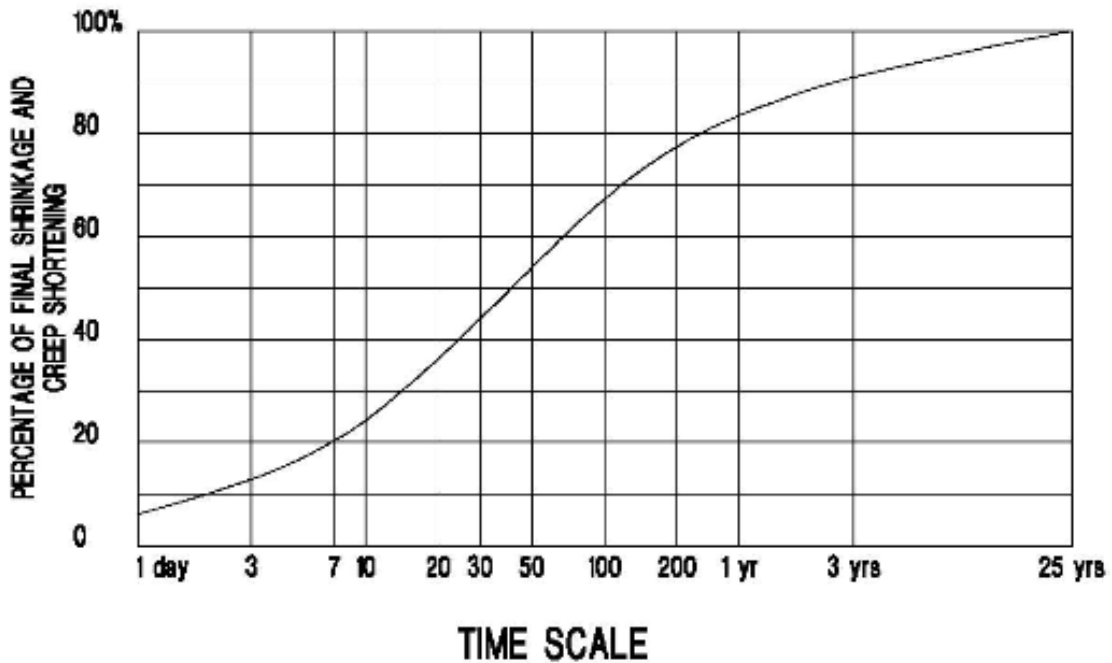

FIGURE A1 LONG-TERM SHORTENING OF CONCRETE MEMBERS DUE TO CREEP AND SHRINKAGE WITH TIME
- Installation of construction likely to be damaged by deflection assumed 30 days after casting concrete. From figure A1 $C1 = 0.55$
- Time from casting of concrete to when structure is placed in service 6-months From Figure A1, conservatively $C2 = 0.2$